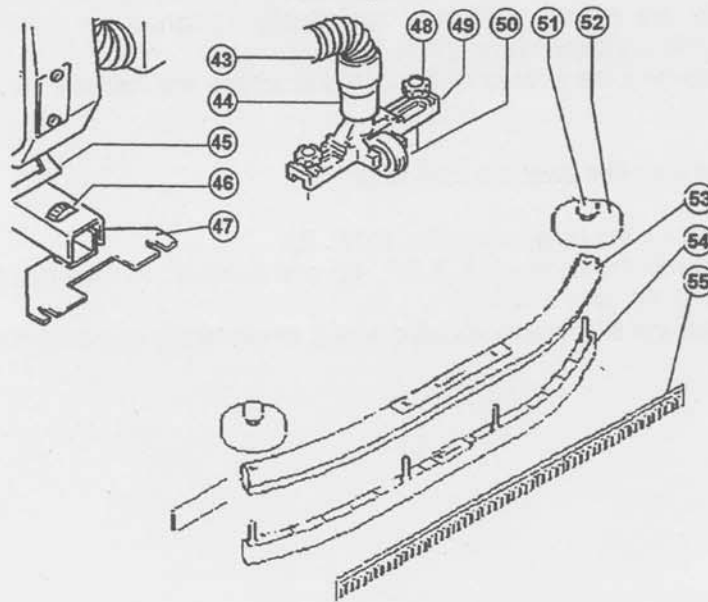

Fig. 4
- adjust the squeegee and the flow of detergent solution as required via the controls (fig. 4, N°. 45 and N°. 46; fig. 2, N°. 4);
Swapping the blades (for references see fig. 4):
Replacing the blades (for references see figure 4):
- clean the suction pipe (fig. 4, N° 43);
* There is an obstruction in the suction pipe (fig. 4, N° 43)	* Unclog the pipe
* The F7 brush motor fuse has blown (only for battery-operated model)	* Replace the 60A fuse (fig. 4, N°. 31) above the brush motor